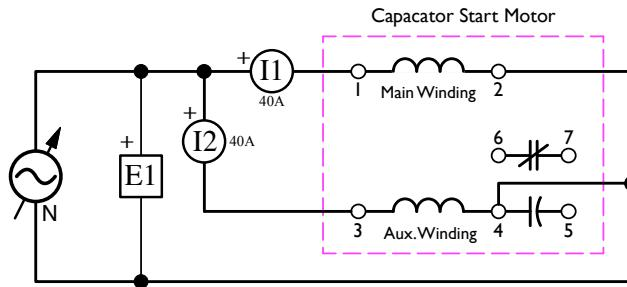

Figure 4.17: Capacitor Start Motor – Main and Auxiliary Winding
39. **Turn off the power supply** and set the voltage control knob to zero. Connect the auxiliary winding of the Capacitor-Start Motor as shown in Figure 4.17.